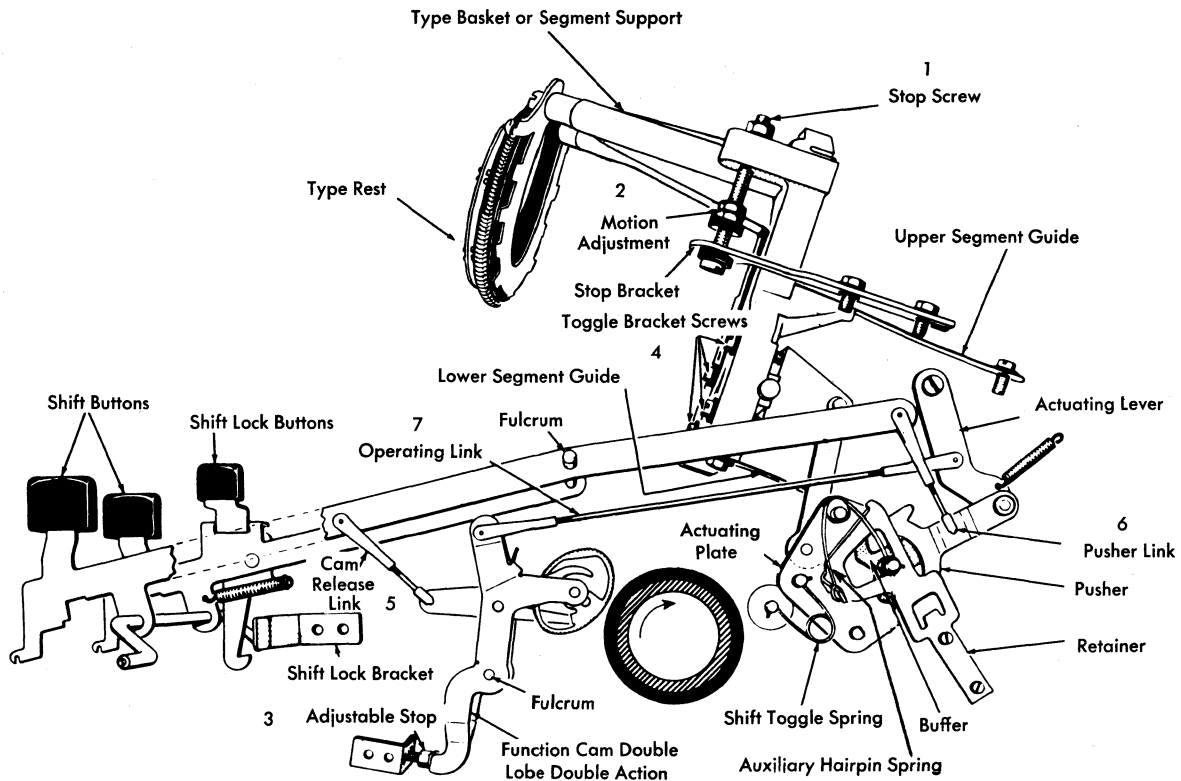

Figure 54. Shift Adjustment
1. Adjust the shift stop screws so that type impressions of lower case characters appear even on the top and bottom. The screws should be set so that the basket rests evenly on both the right and left stop washers (Figure 54).
2. Adjust the motion by the pair of locking nuts on each stop screw so that the upper case characters print on the same line as the lower case. Again the basket should rest evenly on both the right and left stop washers (Figure 54).
3. Adjust the cam stop until the cam clears the power roll enough so that, when tripped with the power off, the cam release lever falls behind the cam lug by an amount equal to the thickness of the cam lug (Figure 54).
4. Adjust the link brackets on each side of the basket so that the clearance between the pusher and either pin on the actuating plate is the same. For example, loosening the top screws and tightening the bottom screws on each side increases the clearance on the top pin and closes the clearance on the bottom pin. A bind may result if both brackets are not adjusted evenly (Figure 54).
5. Adjust the cam release link so that the cam is released when the key-lever is depressed $\frac{2}{3}$ of its downward travel (Figure 54).
6. Adjust the pusher link to such a length that the upper edge of the upper pusher arm is about in line with the top of the upper pin of the actuating plate at the instant the cam is released (Figure 54). This adjustment should allow the lower arm to safely engage the lower pin when the key-lever restores to its upper position.
7. Adjust the operating link so that the pusher clears the pins by $\frac{1}{32}$ " to $\frac{1}{16}$ " (Figure 54). The amount of pin clearance and the power roll speed directly affect the action of the buffer. The higher tolerance usually provides a smoother, quieter shift action.